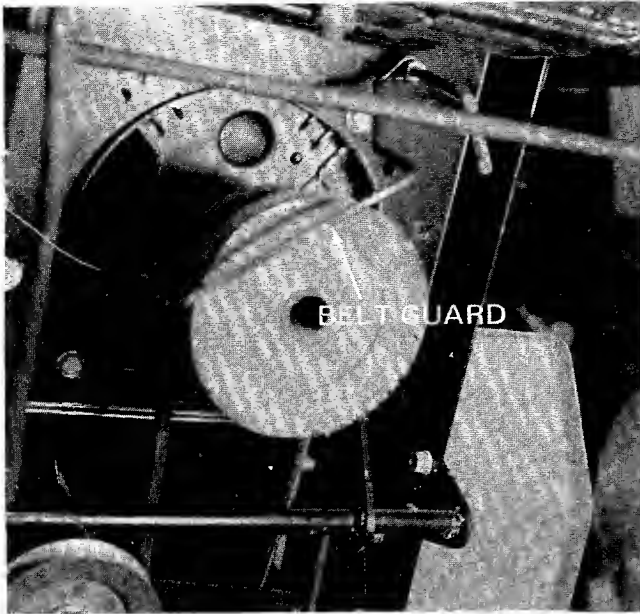

FIGURE 20.
4. Swing the belt guard forward towards the front of the tractor. See figure 20.